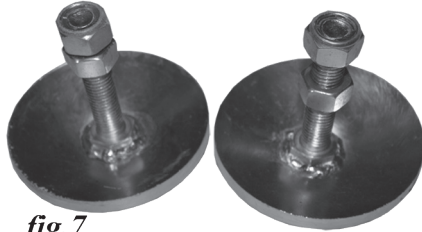

fig.7
6. If not already done, thread an M18 nut onto the shaft of each skid shoe (fig.7). Assuming the blade assembly is held in a vertical position, insert the skid shoes into the skid shoe holders from below. Hold them in place with a Nylock nut on top of each (fig.8). Temporarily set the shoes so they hold the blade scraper about 1 cm (1/2 inch) above the surface. This is the normal setting for paved surfaces, but you can vary the height according to conditions.